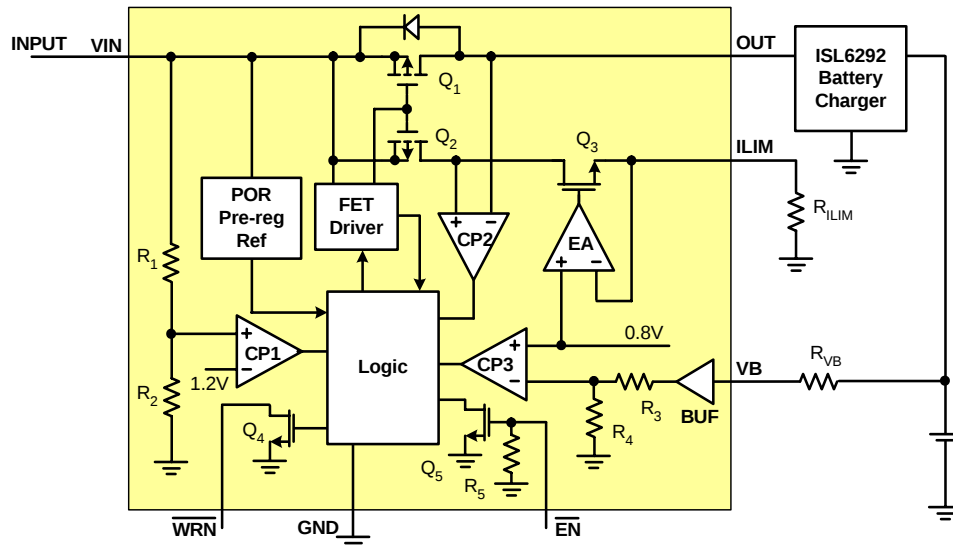
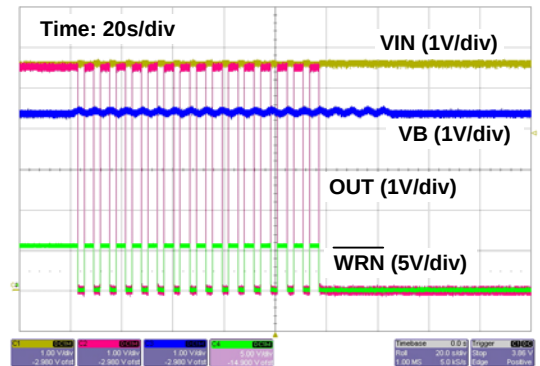

FIGURE 1. BLOCK DIAGRAM
FIGURE 7. BATTERY OVERVOLTAGE PROTECTION. THE IC IS LATCHED OFF AFTER 16 COUNTS OF PROTECTION. VB VOLTAGE VARIES BETWEEN 4.3V TO 4.5V
The input voltage is monitored by the comparator CP1 in the Block Diagram (Figure 1). CP1 has an accurate reference of 1.2V from the bandgap reference. The OVP threshold is set by the resistive divider consisting of R1 and R2. The
The battery voltage OVP is realized with the VB pin. The comparator CP3, as shown in Figure 1, monitors the VB pin and issues an overvoltage signal when the battery voltage exceeds the 4.4V battery OVP threshold. The threshold has 75mV built-in hysteresis. The comparator CP3 has a built-in 180μs blanking time to prevent any transient voltage from triggering the OVP. If the OVP situation still exists after the blanking time, the power PFET is turned off. The control logic contains a 4-bit binary counter that if the battery overvoltage event occurs 16 times, the power PFET is turned off permanently, as shown in Figure 7. Recycling the input power or toggling the enable (EN) input will reset the counter and restart the ISL9209.
The current in the power PFET is limited to prevent charging the battery with an excessive current. The current is sensed using the voltage drop across the power FET after the FET is turned on. The reference of the OCP is generated using a sensing FET Q2, as shown in Figure 1. The current in the sensing FET is forced to the value programmed by the ILIM pin. The size of the power FET Q1 is 31,250 times the size of the sensing FET. Therefore, when the current in the power FET is 31,250 times the current in the sensing FET, the drain voltage of the power FET falls below that of the sensing FET. The comparator CP2 then outputs a signal to turn off the power FET.